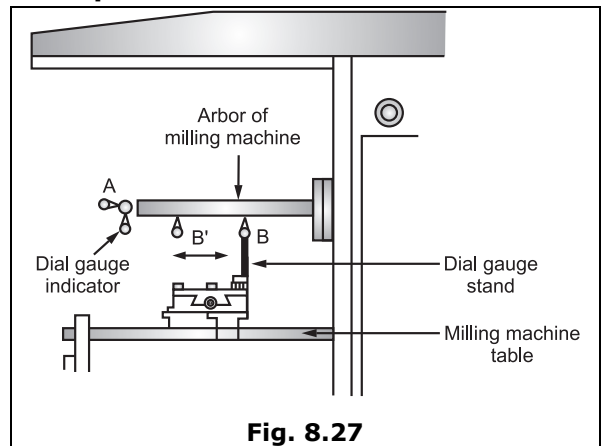

Fig. 8.27
- Fig. 8.27 shows the arrangement required to carry out test, using a dial gauge indicator along with its mounting stand arrangement.
- Use arbor of milling machine as shown in Fig. 8.27. A stationary mandrel can also be used instead of arbor.